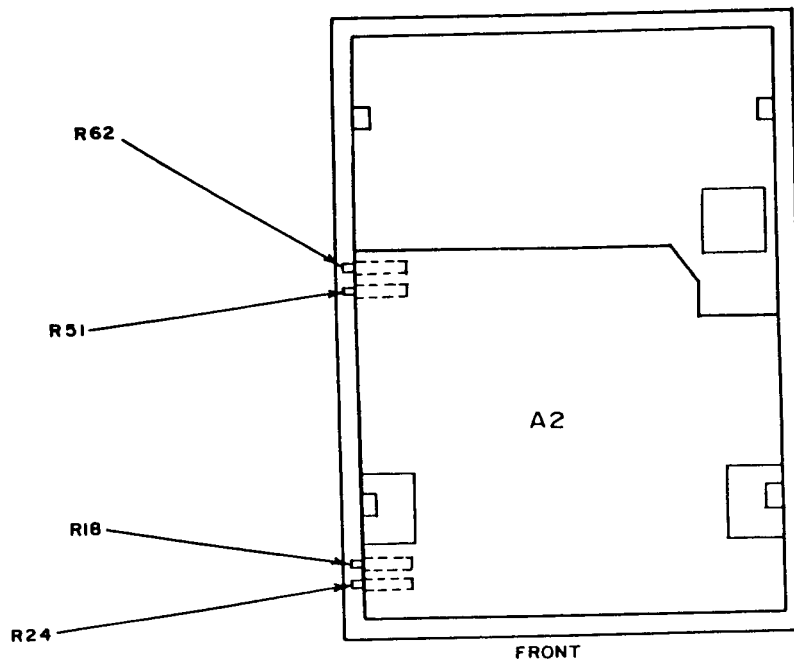

Figure 3. Test instrument - (Hewlett-Packard, Model 5306A) - bottom view.
- (1) Adjust +V ADJ R24 (rear panel) to obtain +9.0000 V dc indication on measuring system (R).
- (2) Adjust -V ADJ R1 (rear panel) to obtain -9.0000 V dc indication on measuring system (R).
- (3) Adjust A2R18 (fig. 3) to obtain indication of +90.000 V dc on measuring system (R).
- (4) Adjust A2R24 (fig. 3) to obtain indication of +900.000 V dc on measuring system (R).
(1) Adjust A2R62 (fig. 3) to obtain best in tolerance compromise of error on each range (R).
(2) Adjust A2R51 (fig. 3) to obtain best in tolerance compromise of error on each range (R).